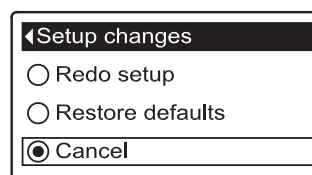

FIG. 90
7. Press the SELECT (O) button to display the Setup changes menu (See Figure 90).
8. If the desired option already has a black dot next to it (See Figure 90), go to Step 9. Otherwise, press the DOWN (▼) or UP (▲) buttons to scroll to the desired option, then press SELECT (O) to choose it.